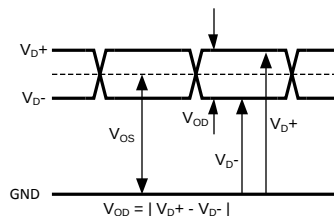

**Figure 1.**
| $V_{OS}$                                   | Output Offset Voltage, see Figure 1               | $V_{BG} =$ Floating                                                         | 800            |                                | mV                      |
| $V_{OS}$                                   | Output Offset Voltage, see Figure 1               | $V_{BG} = V_A$ (12)                                              | 1200           |                                | mV                      |